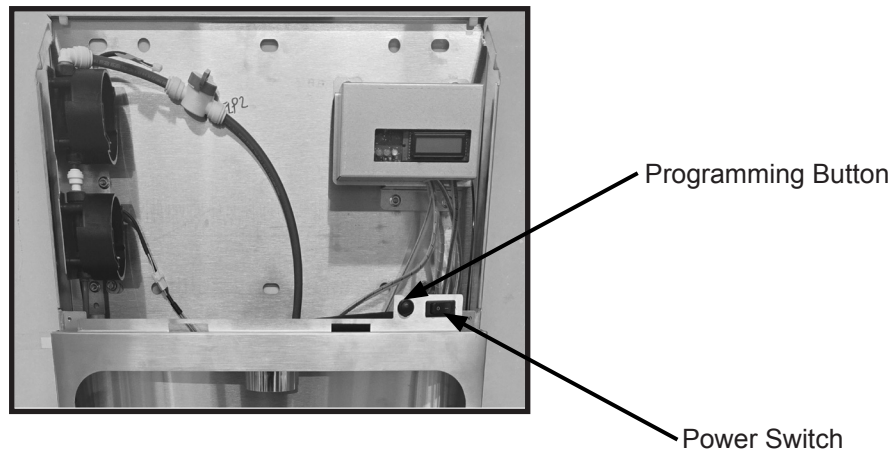

Fig. 13
1. Remove two (2) security screws (size T25) that secure the filter access door from top and rotate the filter access door forward. The filter access door will be held in the open position by the tethers.
2. The programming button is located in lower right corner of bottle filler (See Fig. 13, Pg. 14).